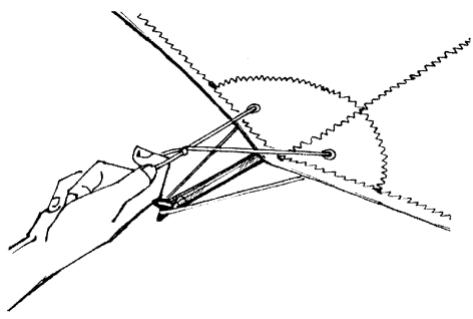

Fig. 25
2.2.7. Secure the rear end of each batten by first looping the bottom loop of leech line around the notched batten end, and then attaching the top loop using the extra loop as a handle (Fig. 25, 26). Be sure the leech line loops are not caught underneath or wrapped around the luff lines.